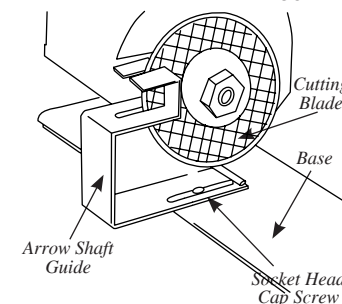

FIGURE 14
3. Remove the **Socket Head Cap Screw** securing the **Arrow Shaft Guide** to the **Base**. *Figure 14*